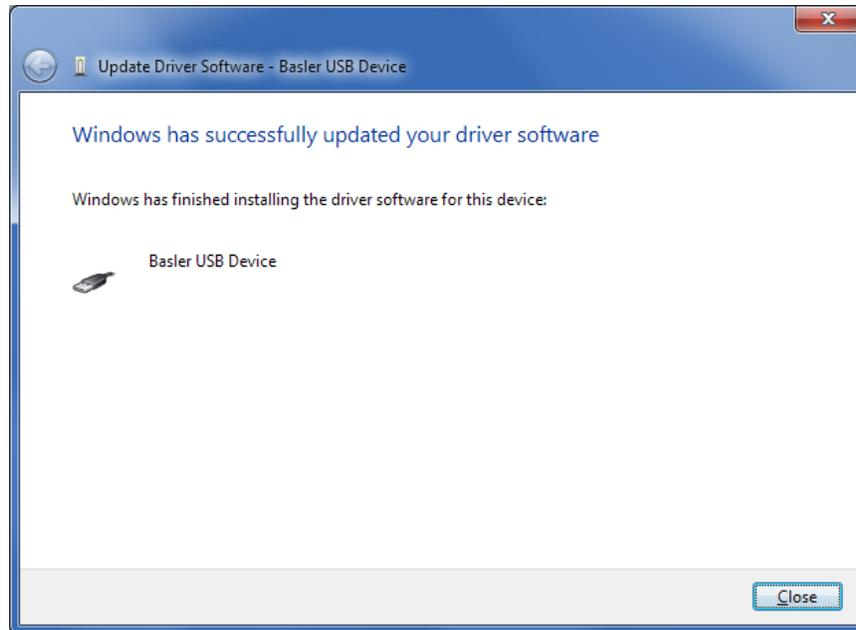

Figure 52-7. Driver Software Update Successful
Step 7. The window in Figure 52-7 appears if driver installation was successful.